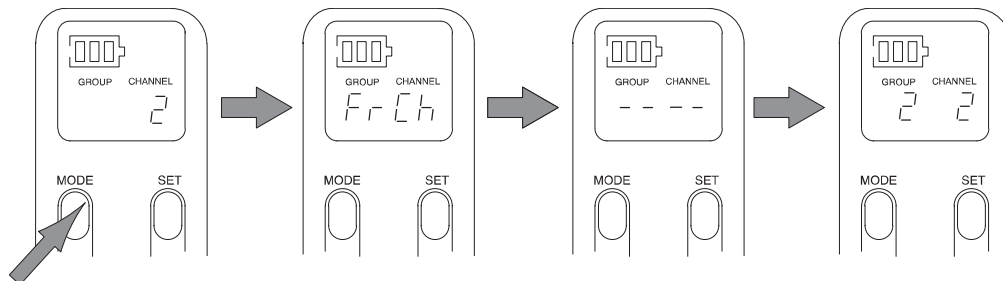

FIGURE 29
- Press the MODE button again to select the new Channel setting. "FrCh" will appear briefly on the display, indicating that the frequency has changed. Then the new Group and Channel settings will appear. Refer to Figure 29.